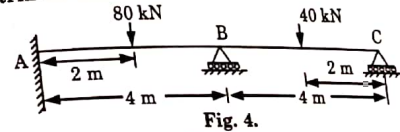

Fig. 4.
- d. Analyse the continuous beam as shown in Fig. 4. If the downward settlement of supports B and C are 10 mm and 5 mm respectively. Take $EI = 184 \times 10^{11} \text{ N-mm}^2$. Use flexibility matrix method.